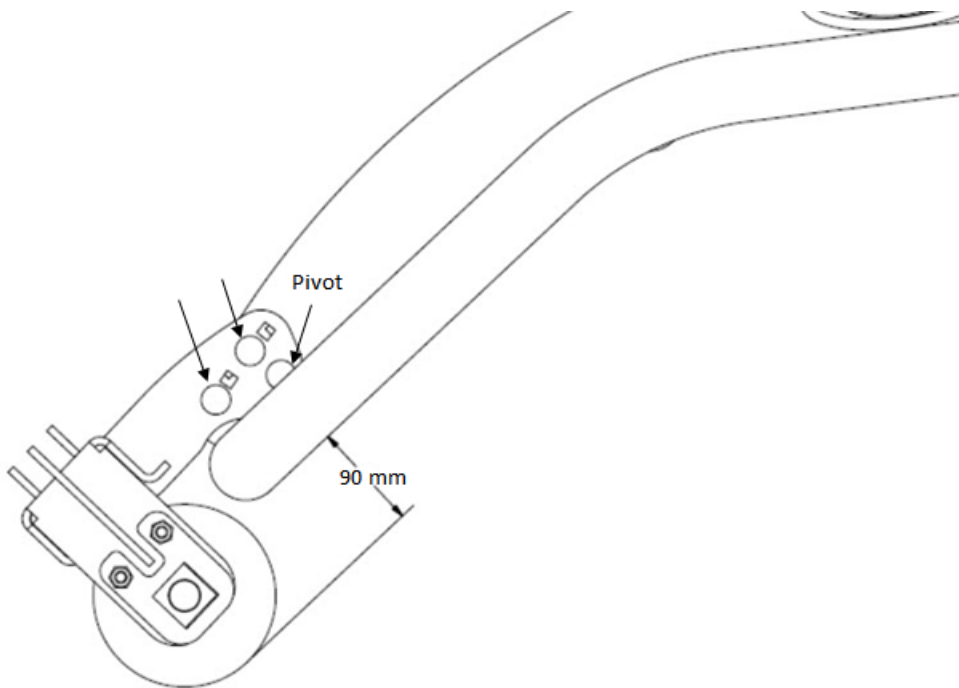

Figure 21 — Bolt Locations for 1.2 m and 1.35 m (4 ft. and 4.5 ft.) Bales
- For 1.2 m and 1.35 m (4 ft. and 4.5 ft.) bales, see Figure 21.